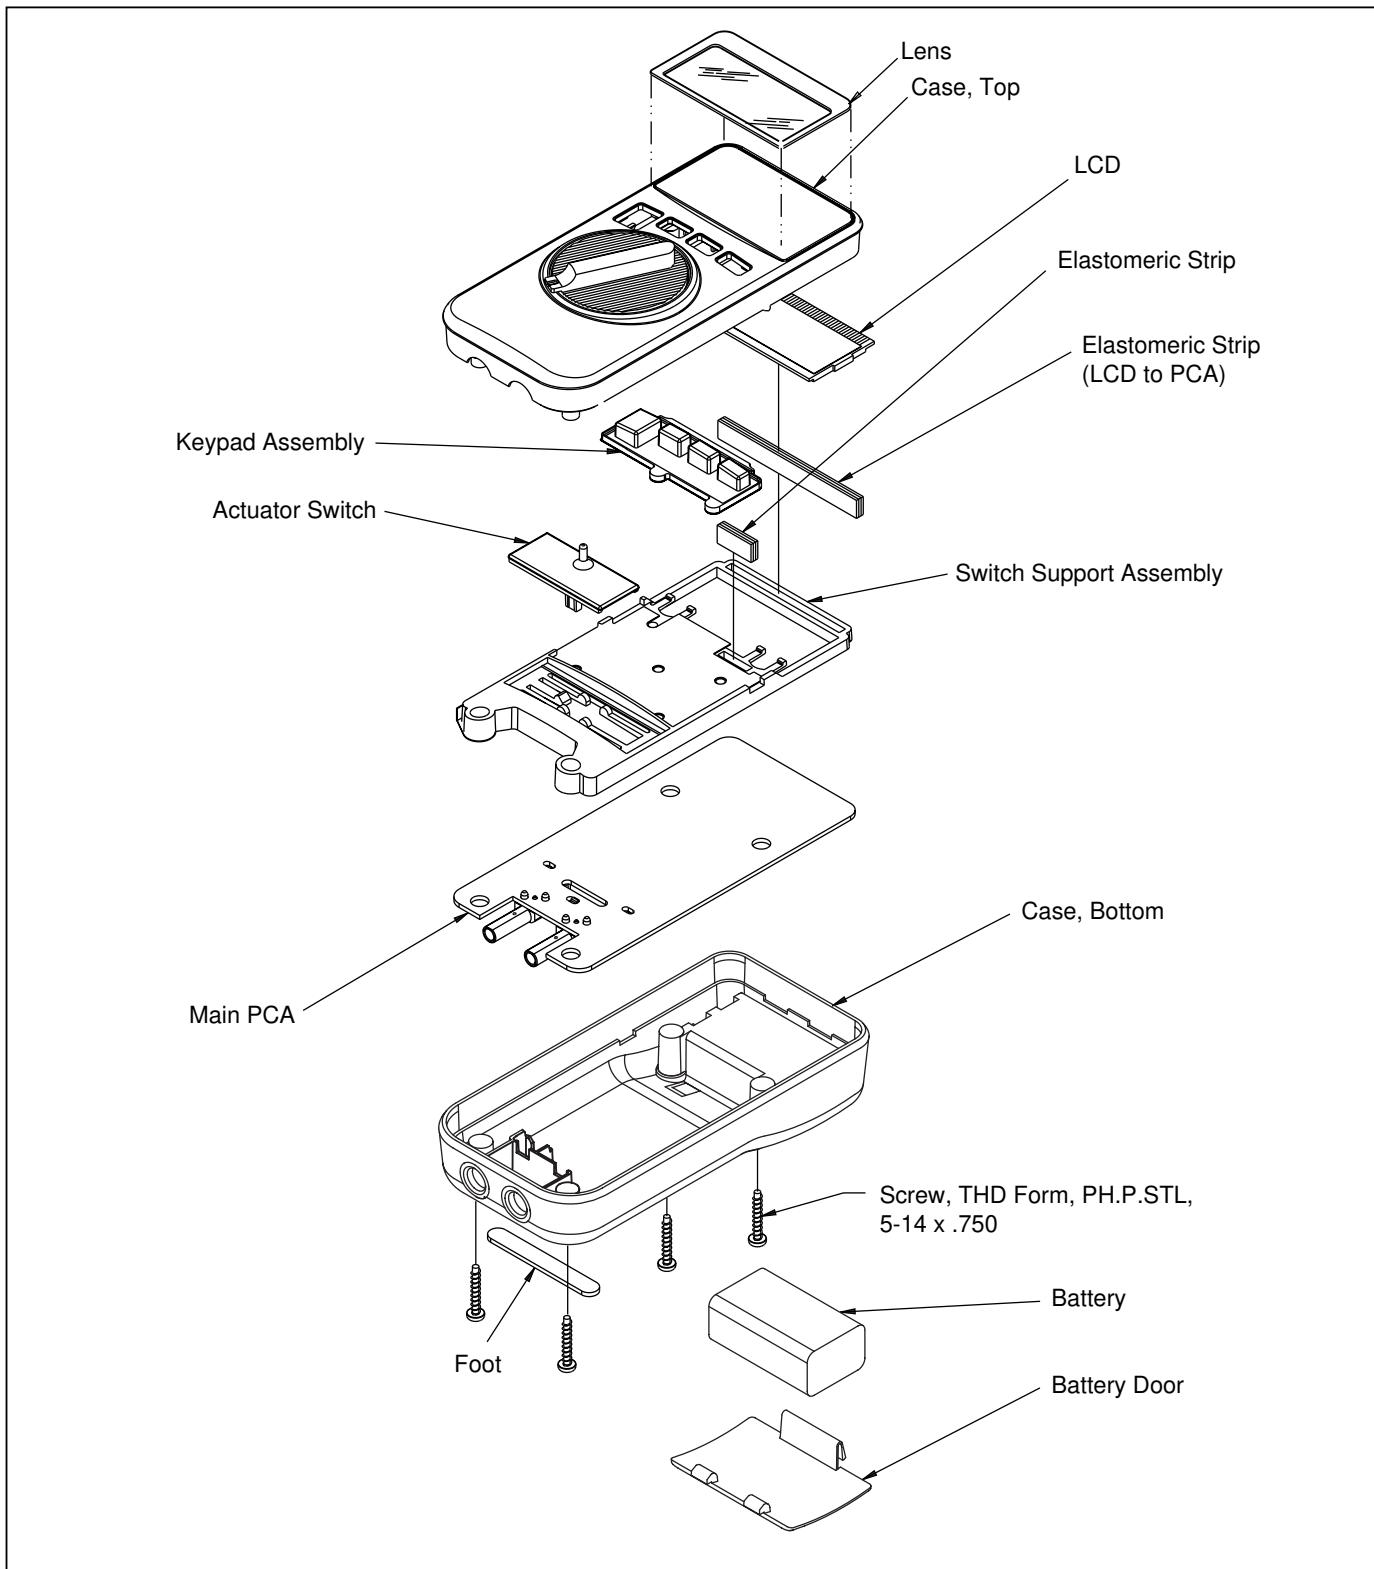

Figure 2. Disassembled Loop Calibrator
To disassemble and reassemble the Loop Calibrator, refer to Figures 2 and 3 as necessary and perform the following procedure.
- 10. To remove the switch support:** Use a small, flat-blade screwdriver to gently unsnap the sides and top of the switch support from the snaps shown in Figure 2.